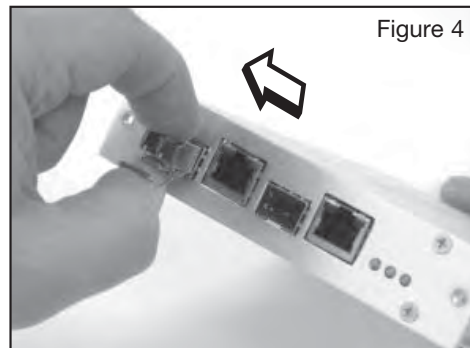

Figure 4
- Step 3** - Grasp the SFP sub-module between your thumb and index finger and carefully remove it from the connector cage as shown in Figure 4.